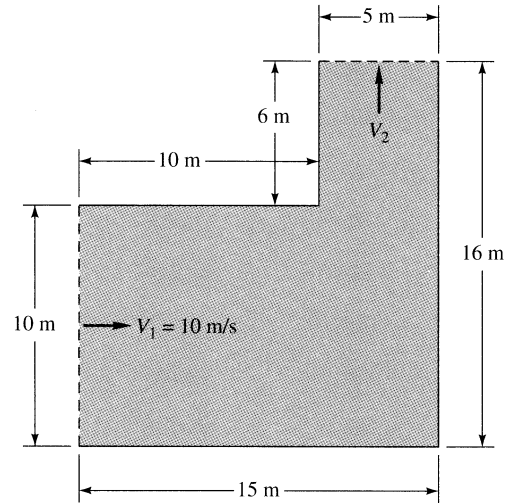

Fig. P8.109
**8.109** Consider inviscid potential flow through a two-dimensional 90° bend with a contraction, as in Fig. P8.109. Assume uniform flow at the entrance and exit. Make a finite-difference computer model analysis for small grid size (at least 150 nodes), determine the dimensionless pressure distribution along the walls, and sketch the streamlines. [You may use either square or rectangular grids.]